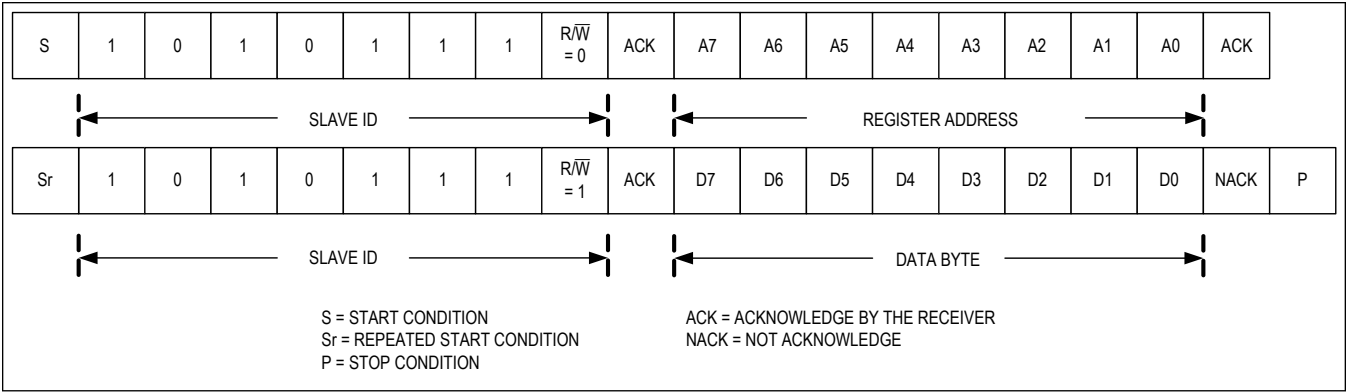

Figure 10. Reading one byte of data from MAX30101
For the read operation, two I²C operations must be performed. First, the slave ID byte is sent followed by the I²C register that you wish to read. Then a REPEAT START (Sr) condition is sent, followed by the read slave ID. The MAX30101 then begins sending data beginning with the register selected in the first operation. The read pointer increments automatically, so the MAX30101 continues sending data from additional registers in sequential order until a STOP (P) condition is received. The exception to this is the FIFO_DATA register, at which the read pointer no longer increments when reading additional bytes. To read the next register after FIFO_DATA, an I²C write command is necessary to change the location of the read pointer. Figure 10 show the process of reading one byte or multiple bytes of data. An initial write operation is required to send the read register address.